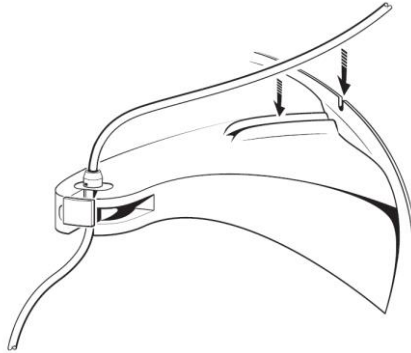

Figure 11. Place tubing in notch on centrifuge ridge.
8. Press tubing down into groove on support arm and place tubing through notch in centrifuge ridge (see Figure 11).